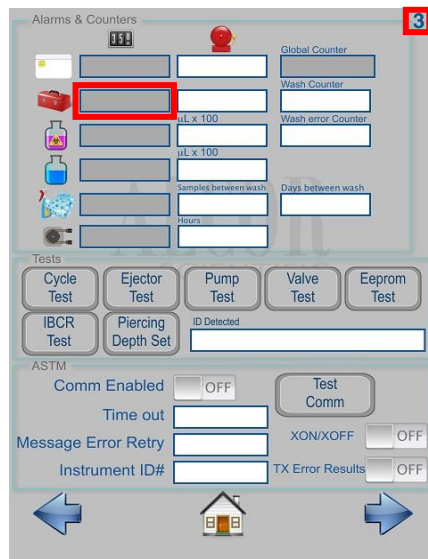

Figure 19
- 48. Press the grey box next to the Toolbox icon as indicated below. This will reset the Maintenance Counter number inside that grey box to 0. Figure 19
- 49. Press the Grey box next to the pump icon outlined in red in Figure 19. This will reset the Maintenance Counter number inside that grey box to 0.